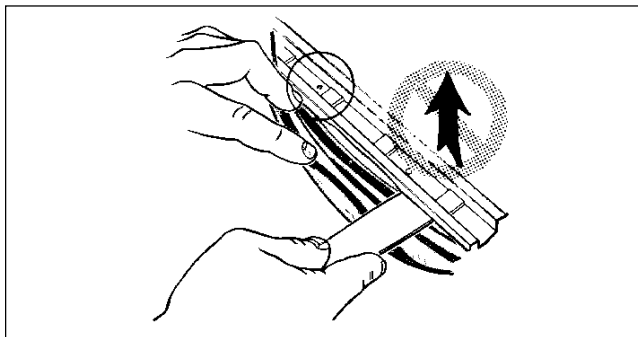

Figure 161
1. Make sure the base of the gasket is tucked under the lip of the inner liner. **DO NOT PULL UP ON THE INTERIOR DOOR PANEL.** See Figure 161.